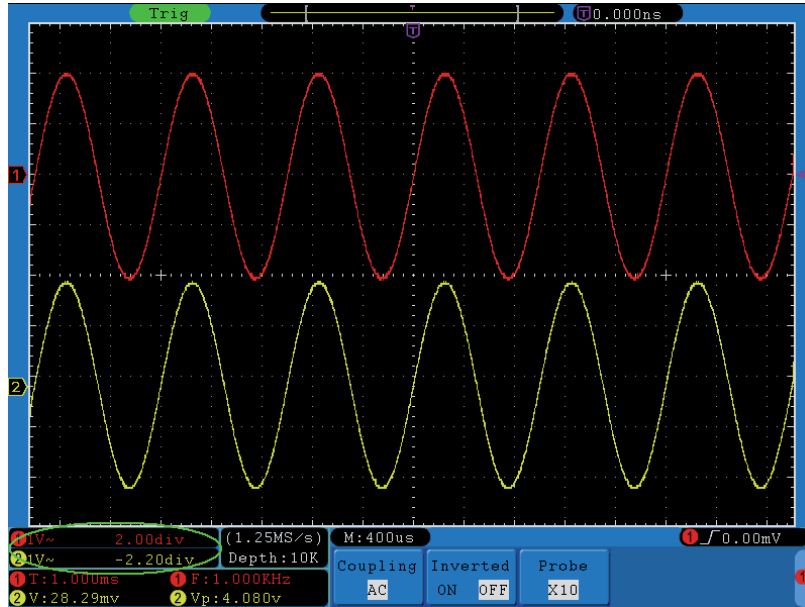

Figure 25. Information about Vertical Position.
- When the vertical position of the channel waveform is adjusted, the changed value is displayed at the left bottom corner of the screen (see Figure 25).